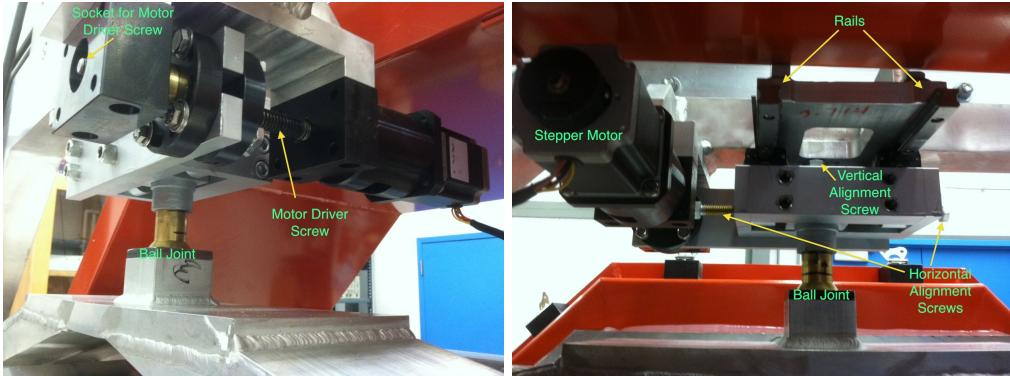

Figure 2: Motor assembly with relevant labels (the top motor assembly is shown).
Figure 2 shows in detail one of the three motor assemblies. Motion is controlled in each assembly by a stepper motor that twists a motor driver screw. The twist of this screw pushes or pulls a flange rigidly connected to the ball pin assembly. The motion of this ball pin assembly is restricted to an axis defined by a rail system. The driver screw and rails must be parallel for this to work well. One step from a stepper motor corresponds to ~ 1.02 micron of motion along this axis for the ball pin. The total range of motion is 5 cm along this direction (z).
Conversely, motion along the x/y axis is performed manually. With the horizontal alignment screws loose, the ball pin can move along a track perpendicular to the rails (see Fig. 2). However, there is no stepper to help with horizontal shifts. Additionally, the
7. **Warning 2:** Make sure that the top horizontal screw (left one) has clearance to move along the full z axis. See Fig. 2, don't be in the case where this screw will hit the stepper motor assembly when moving along the z axis.